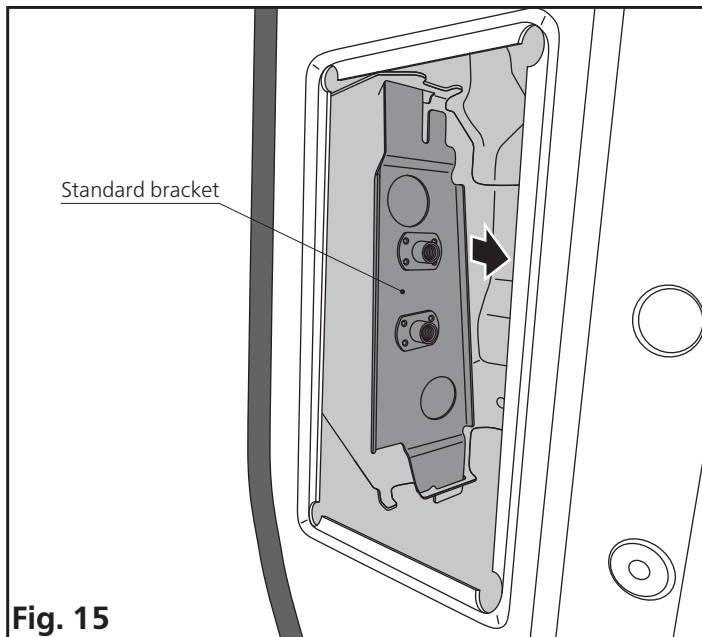

Fig. 15
3. Dismantle the standard bracket (Fig. 15 and Fig. 17, page 17).